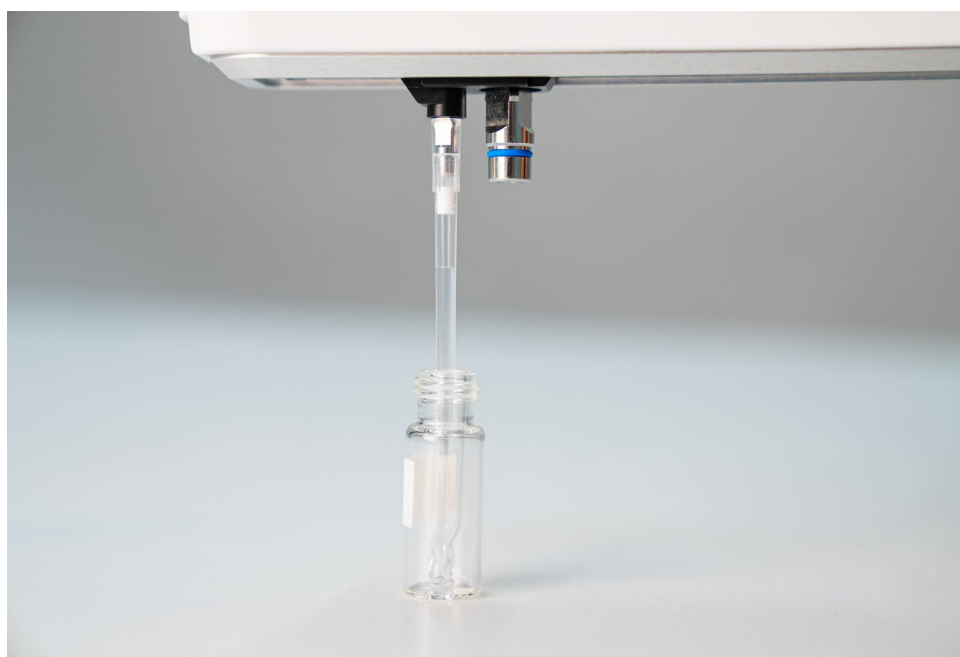

Figure 7: HPLC vial with inlet for low volume LC-MS analysis accessed by the D-ONE.
- **Low volume HPLC vials:** Special low volume HPLC vials with inlets are compatible with the INTEGRA rack for HPLC vials and accessible by the D-ONE (**Figure 7**).